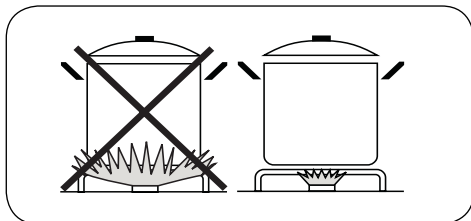

fig.2
- Use an appropriately sized pan for each burner (see the table below and fig. 2).